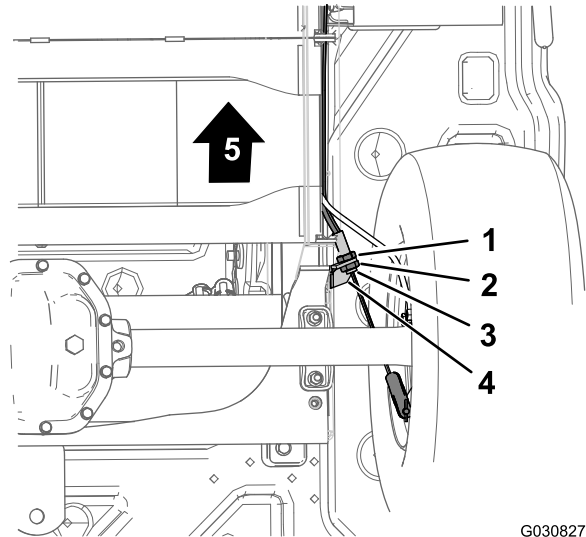

Figure 48
3. At the bottom of the machine, loosen the rear-jam nut for the threaded adjuster of the parking-brake cable 4 turns (Figure 48).
4. Tighten the forward jam nut (Figure 48).
- A. Loosen the forward-jam nut (Figure 48) for the threaded adjuster of the parking-brake cable 1 turn.
- B. Tighten the rear jam nut (Figure 48).
- A. Loosen the rear-jam nut (Figure 48) for the threaded adjuster of the parking-brake cable 1 turn.
- B. Tighten the forward jam nut (Figure 48).